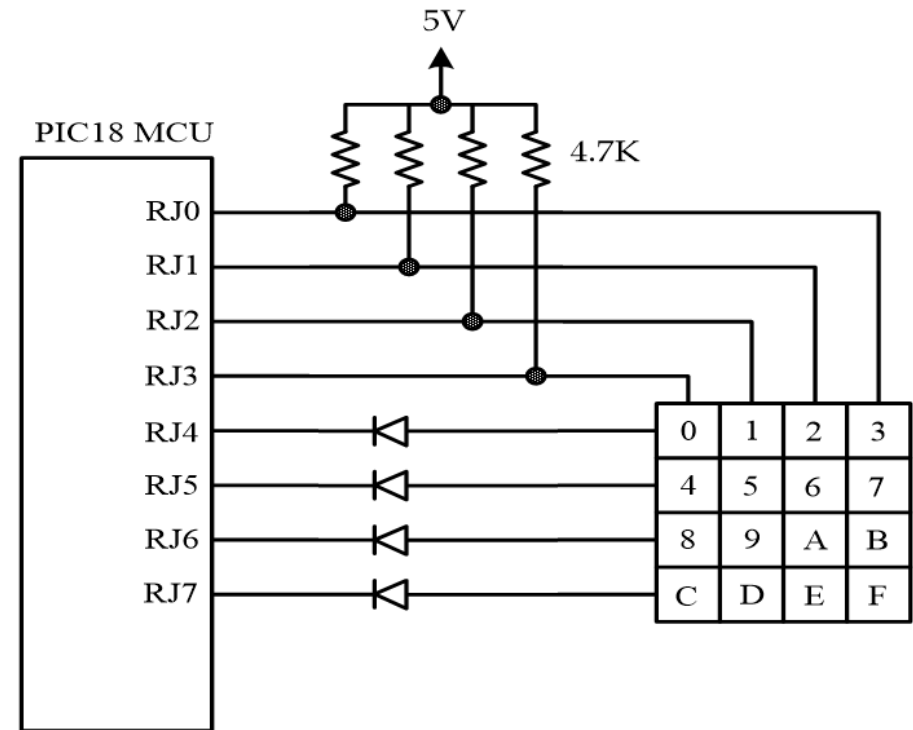

Figure 7.26b Sixteen-key keypad connected to PIC18 (used in all SSE demo boards)
- **The diodes in Figure 7.26b provide protection of accidental simultaneous press of multiple keys.**